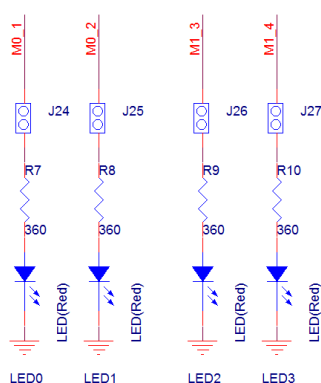

**Figure 1-7 G-sensor I2C connection**
- 4) **Mark 7:** I2C interface of 6-axis motion sensor. Connection of Jumper J18, J19 and J20 is shown in figure 1-7.